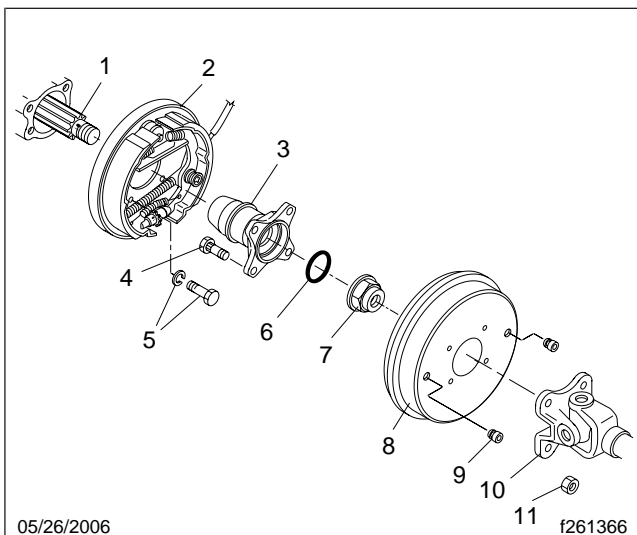

Fig. 3, Driveline Parking Brake
9. Remove the brake drum from the driveline parking brake. See Fig. 3.